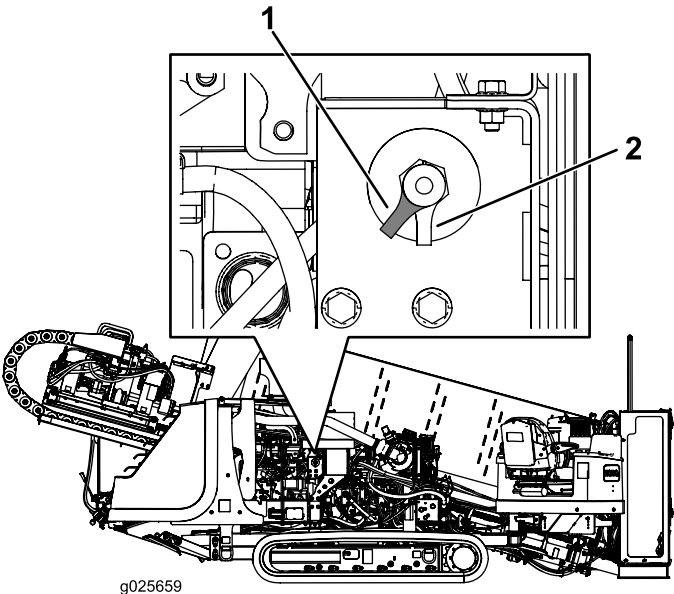

Figure 49
- To energize the machine electrically, rotate the battery-disconnect switch clockwise to the On position (Figure 49).
- To de-energize the machine electrically, rotate the battery-disconnect switch counterclockwise to the Off position (Figure 49).